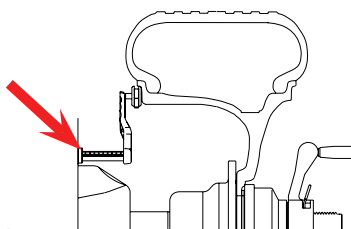

Figure 24
**4.5.3.1 Manual Distance Entry** - Move the distance SAPE Arm to touch the inner edge of the wheel where weights are to be placed and observe the reading on the scale of the distance SAPE. See Figure 24. Press manual Wheel **Offset** button (O) followed by selecting the +/- keys until value is displayed in the display window. Select Enter to save selection.